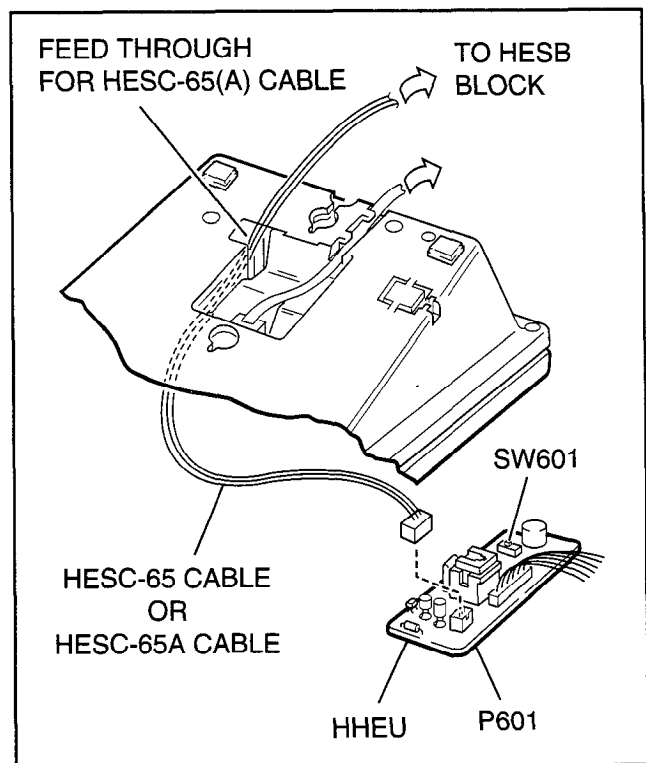

FIGURE 6-11
- 4) Connect the HESC-65A cable to **P601** of the HHEU (both HHEU1A versions and the HHEU2 have **P601**) if the Loud Ringing Bell option is required (Figure 6-11). Refer to Section **100-816-207** for HESB installation procedures.
- 4) Connect the HESC-65 or HESC-65A cable (either one) to **P601** of the HHEU if the Loud Ringing Bell option is required (Figure 6-11). Refer to Section **100-816-207** for HESB installation procedures.